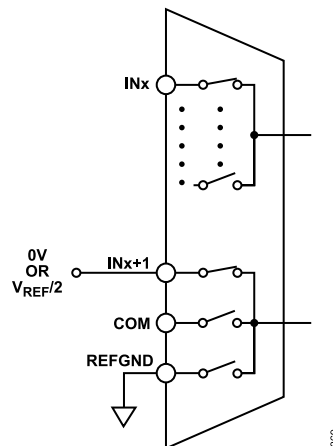

Figure 71. Even-Channel and Odd-Channel Paired
- ▶ Figure 71, even numbered input paired with the next highest odd numbered input (for example, IN0 with IN1, IN2 with IN3, and so on).